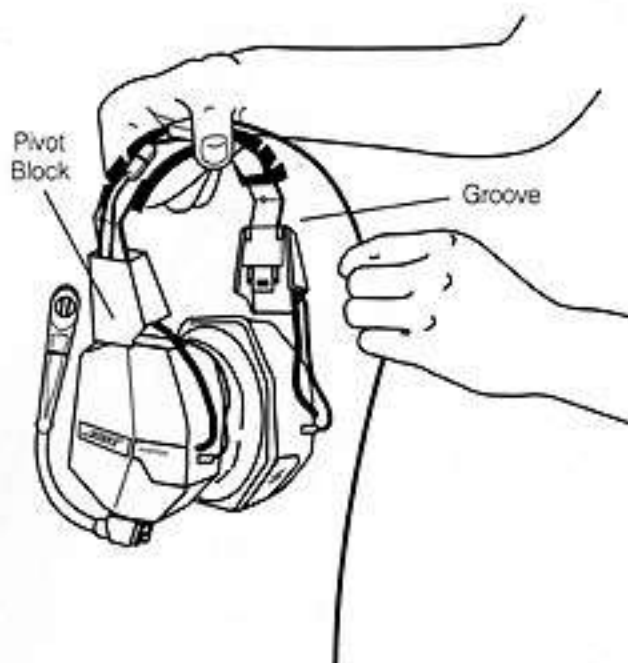

Figure 7
2. Unwind the Headset cable from the earcup cable. Release the Headset cable from the groove at the back of the pivot block (see Figure 7).